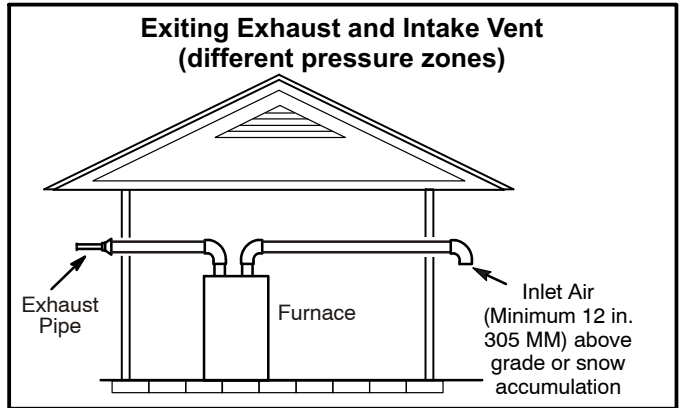
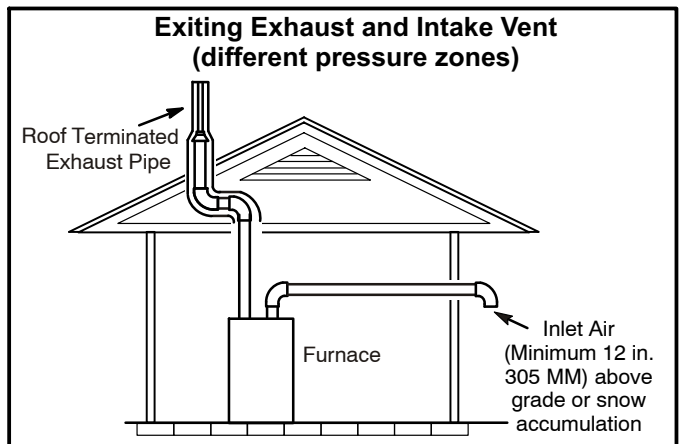

FIGURE 27
FIGURE 28
1. Intake and exhaust terminations are not required to be in the same pressure zone. You may exit the intake on one side of the structure and the exhaust on another side (figure 27). You may exit the exhaust out the roof and the intake out the side of the structure (figure 28).